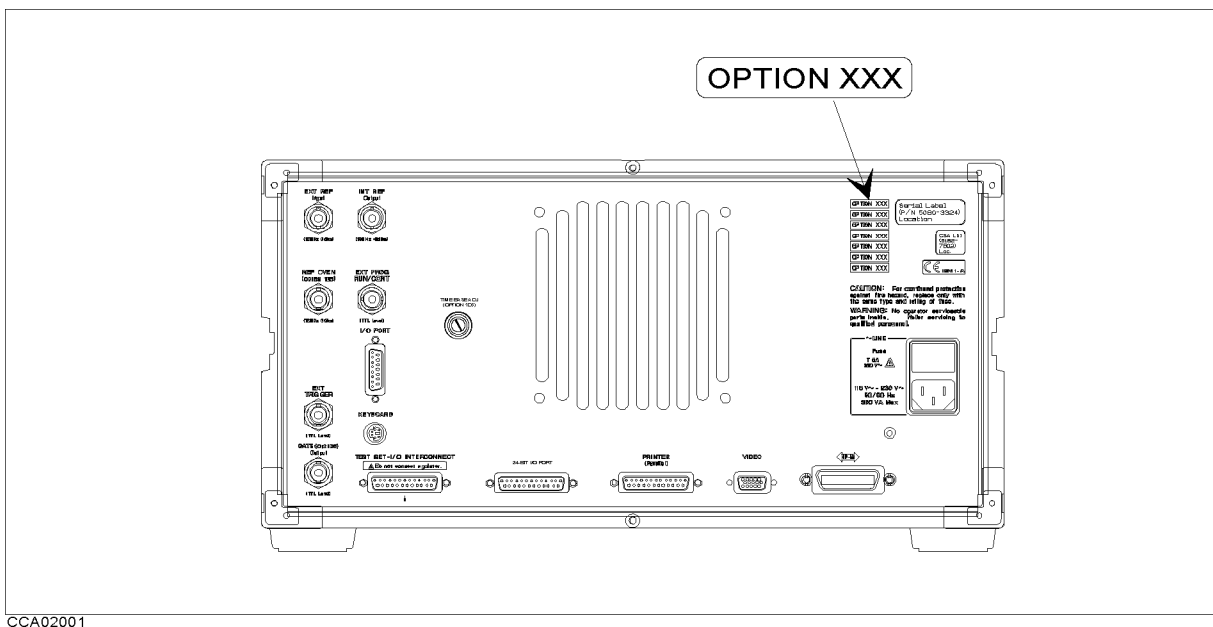

Figure 2-1. 4395A rear view
8. Put the option label on the rear panel as shown in the Figure 2-1.